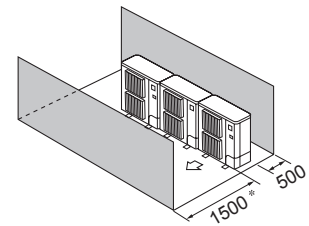

Fig. 2-12
- ④ Obstacles at front and rear (Fig. 2-12)